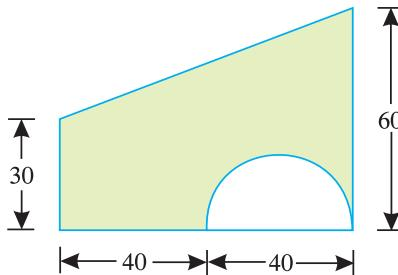

Fig. 6.24.
**Example 6.14.** A semicircular area is removed from a trapezium as shown in Fig. 6.24 (dimensions in mm)